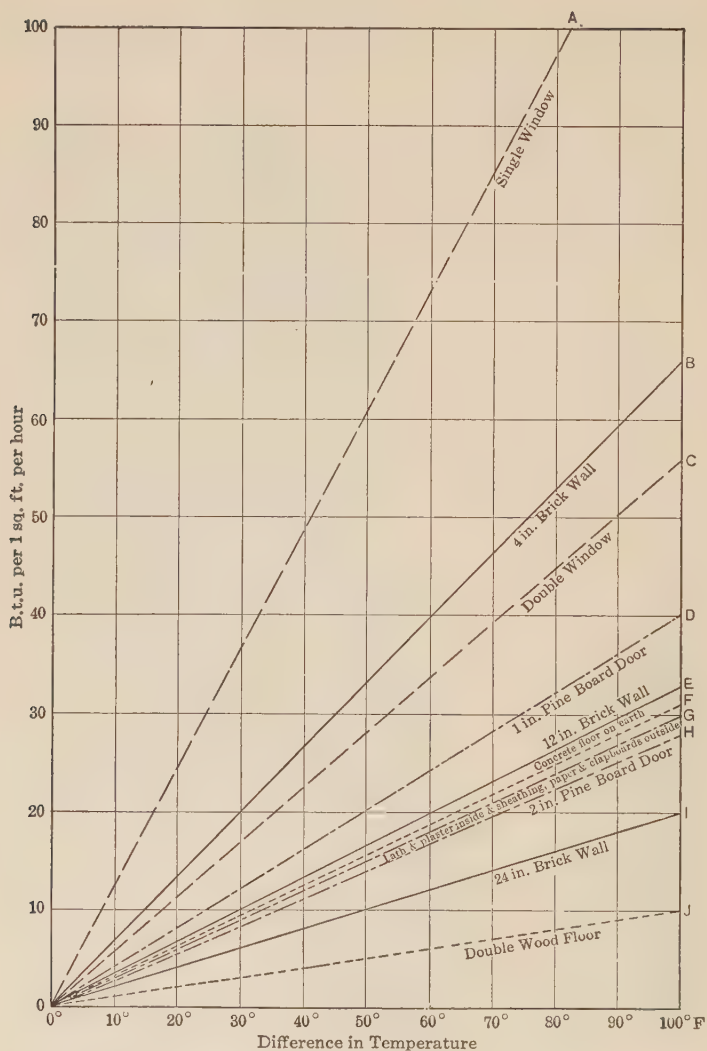

FIG. 49. — Heat losses through building materials under moderate exposure to wind.
53. House construction. Most of the time, it is desirable to have the walls of the house check the passage of heat through them, in cool weather to keep the heat in, and in hot weather to keep the heat out. The heat-insulating property of air, paper, wood, and other materials is utilized in buildings. The wall of the ordinary wooden house has, in its cross section, clapboards, sheathing paper, boards, air, lathes, plaster, and wallpaper. These are all poor conductors. Many cement and stucco houses have hollow tile walls to hold the surface cement. Air is held in small spaces in the tile, and large convection currents, such as take place in the walls of wooden buildings, cannot be produced. Rooms directly under flat roofs are very hot under the direct rays of the summer sun. The pitched roof, having an attic space which holds air, is much cooler. Thick walls with small air spaces keep the heat in or out better than thin walls or solid walls. The loss of heat through the walls depends upon the outside and inside temperatures. The chart of Fig. 49 shows the loss of heat through walls under moderate exposure to wind. The losses will be greater on northern and western exposures, because our cold winds are those from the north and west. You will also see from the chart that, if the difference between indoor and outdoor temperatures is doubled, the heat loss is doubled, or that the rate of heat loss through windows, doors, and walls is directly proportional to the difference between inside and outside temperatures.